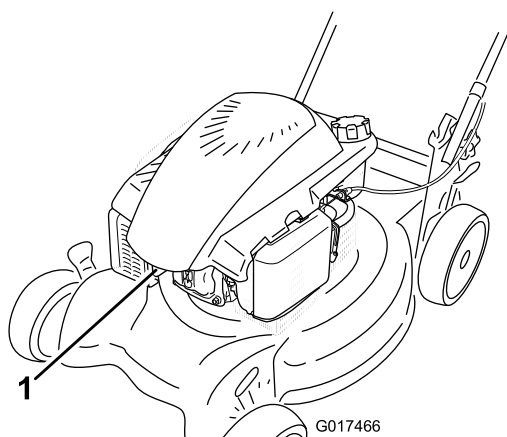

Figure 32
3. Disconnect the spark plug wire from the spark plug (Figure 32) before performing any maintenance procedure.